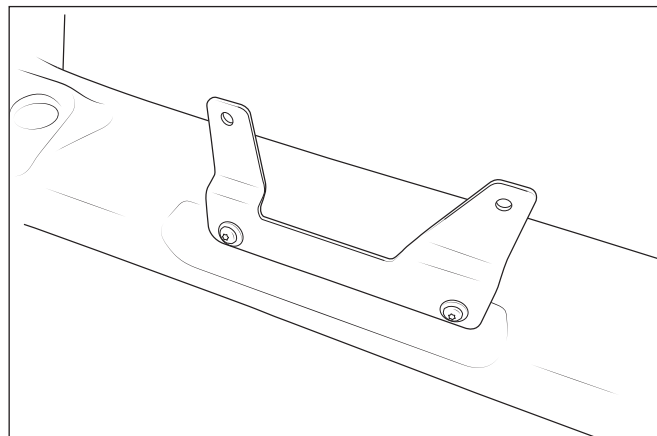

Figure 8
1. Install the large mounting bracket to the bottom of the snorkel using the provided M6 bolts and washers as shown (fig. 8). Make sure the bracket is straight and tighten bolts to 100 in-lb